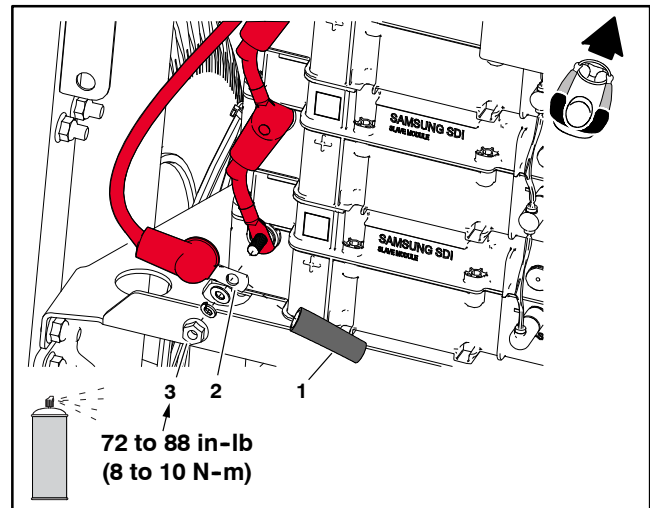

Figure 4
6. Remove the flange nut and positive (+) battery cable from the battery terminal; refer to Fig. 4.
2. If installed, remove the rubber hose on the positive (+) cable. Install the positive (+) cable onto the positive terminal on the left, rear battery. Secure conductors to battery with flange nut and torque tighten the nut from **72 to 88 in-lb (8 to 10 N-m)**; refer to Fig. 4.